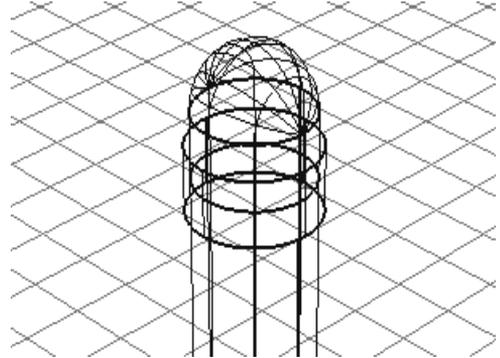

Figure 2-121 Model after rotating the top part of the eraser about X-axis
2. Enter **90, 0, 0** in the promptline and press ENTER; the hemispherical top part is rotated about the X-axis, as shown in Figure 2-121.